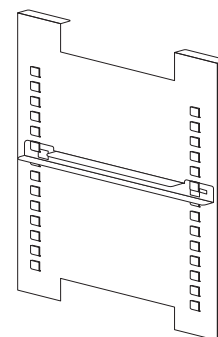

Figure 1-12. Channel Installed
4. Figure 1-12 shows one of the channels installed on the right side duct. Note that if a shelf is installed in any of the bottom 3 rows of side duct tabs that it will need to be removed to take out the humidity pan to clean and add water.